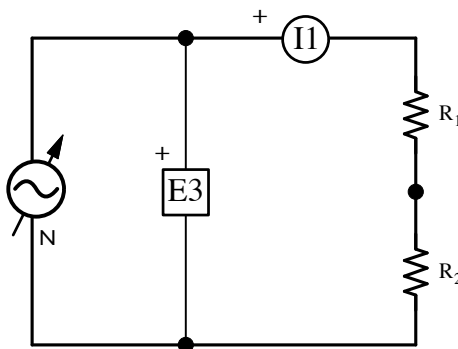

Figure 1.5: AC sine wave circuit
- 5. Set up the circuit shown in Figure 1.5. Note the symbol used to indicate a *variable ac source* in this circuit. Set the resistances of  $R_1$  and  $R_2$  to  $300 \Omega$  each. Note that E3 is placed across the power supply and measures the supply voltage, and that I1 is placed in series with the load, and measures the load current.